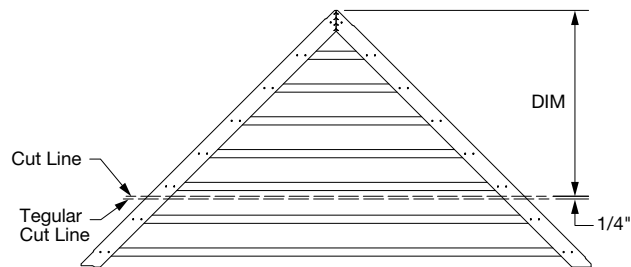

Fig 68
1. Add 1/4" to the **CUT LINE**, this is the **TEGULAR CUT LINE** (**Fig 68**).